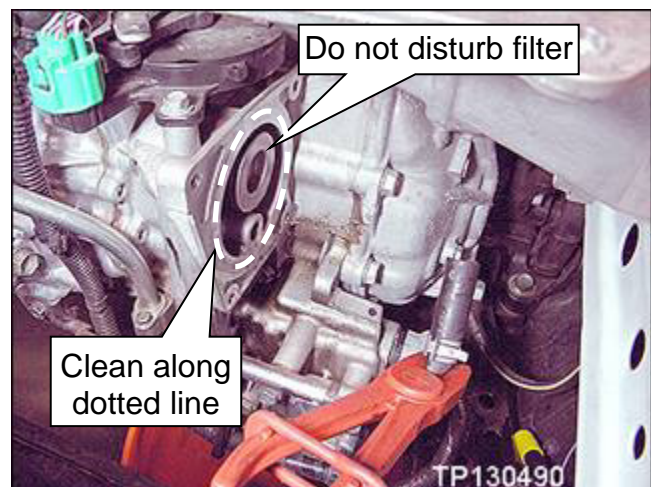

Figure 9
- Do not remove the filter (see Figure 9).